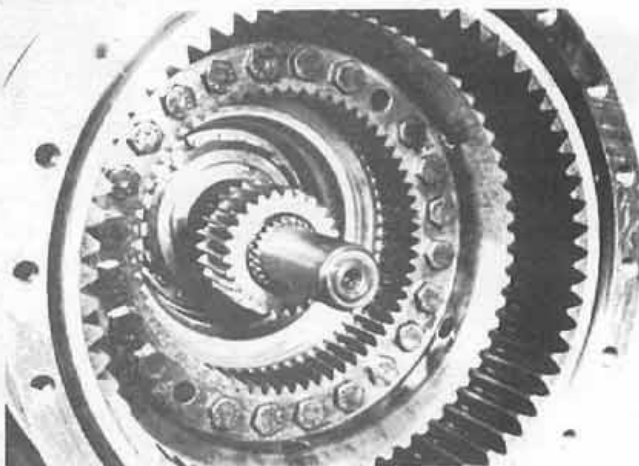

Figure 6
Step 5 Remove axle shaft and sun gear. The axle will slide out of the center section freely. There is no fastener on the axle in the center section. (See figure 6).